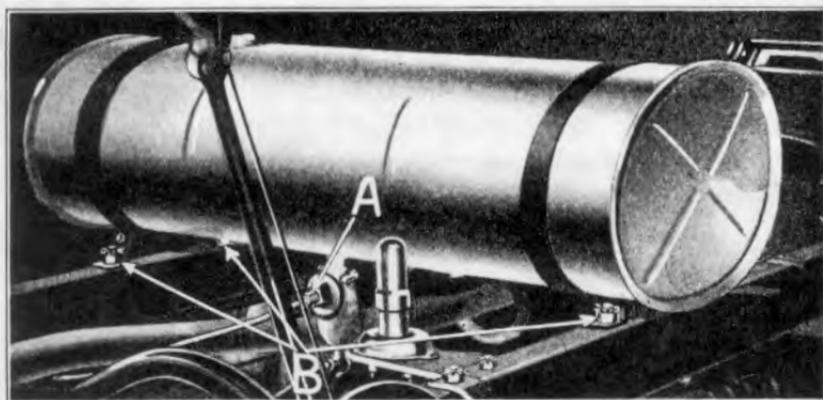

Fig. 47
- 45 **Remove feed pipe** by running out feed pipe pack nut (See "A" Fig. 47) at sediment bulb and withdrawing pipe from feed pipe clamp.